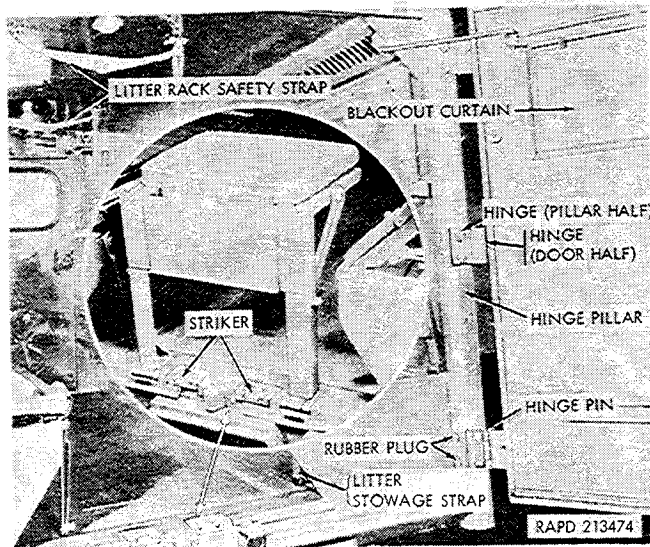
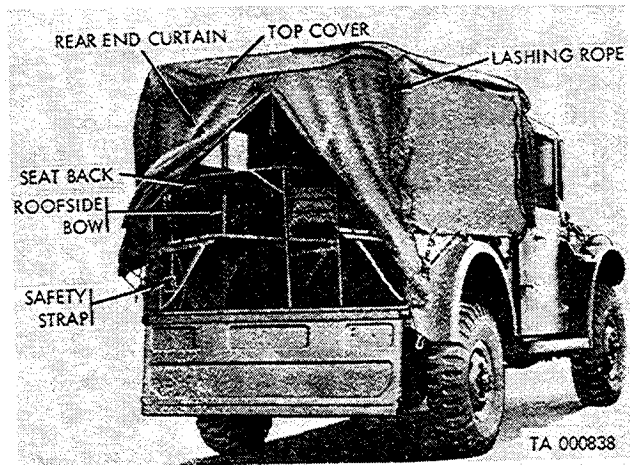

Figure 2-190. Patient compartment rear door adjustments.
Figure 2-195. Top cover and curtains (cargo truck M37).
c. Adjust Vertical Position of Door (Fig. 2-190). Both doors are adjusted in the same manner.
- (1) Open the door and remove the two rubber plugs at each pillar hinge.
- (2) Loosen the four lockwasher screws that secure each hinge to the hinge pillar.
- (3) Raise or lower the door, as required, to provide equal and uniform space at top and bottom.
(4) Tighten the four lockwasher screws at each pillar hinge.
(5) Install the two rubber plugs for each pillar hinge.
d. Adjust Horizontal Position of Doors (Fig. 2-190). Both doors are adjusted in the same manner.
(1) Loosen the four lockwasher screws that secure each door hinge to the door.
(2) Move the door to left or right, as required, to provide uniform contact at the weatherseals and equal and uniform space at the outer edges of both doors. If the horizontal adjustment required is excessive, adjust both doors.
(3) Tighten the four lockwasher screws for each door hinge.
e. Adjust Rear Door Strikers (Fig. 2-190). If the rear doors close hard, or if the contact at the weatherseals is unsatisfactory, adjust the rear door strikers located at the top and bottom of each door opening. All strikers are adjusted in the same manner.
(1) Loosen the two screws that secure the striker to the striker plate.
(2) Move the striker forward or back on the serrated striker plate, as required, until proper closing of the door is obtained. Tighten the screws.
a. Removal (fig. 2-195).
(1) Detach the safety strap (fig. 2-195) from the two eyebolts in the seat back lower boards, and remove the strap.
(2) Remove the nut and lockwasher from each eyebolt, and remove the two bolts and flat washers.
(3) Place a flat washer on each eyebolt. Install the eyebolt through the upper hole at the rear of the seat back lower board. Install a lockwasher and nut on each eyebolt. Tighten the nuts.
(4) Attach the safety strap snaps to the eyebolts.
b. Replace Litter Stowage and Holddown Straps (fig. 2-190) (Ambulance Truck M43).
(1) Remove the two nuts, lockwashers, and screws that secure the bracket for each lower stowage strap to the side compartment, and remove the strap and bracket. Remove the bracket from the strap. The buckle strap is removed in the same manner.
(2) Engage the strap in the strap bracket, position the bracket on the side compartment, and install the two flathead screws, lockwashers, and nuts for each bracket.
d. Replace Litter Rack Safety Straps (fig. 2-190) (Ambulance Truck M43). The four-litter rack safety straps are all replaced in the same manner. Detach the strap from the litter rack, and remove the strap from the bracket in the roof panel.
e. Replace Blackout Curtains (fig. 2-190) (Ambulance Truck M43). The blackout curtains on the rear door and on the partition door are all replaced in the same manner.
(1) Detach the curtain from the two fasteners at the lower edge. Remove the three screws and plain washers that secure the curtain to the door panel, and remove the curtain.
(2) Position the new curtain on the door with the unfinished side toward the glass. Install the three plain washers and tapping screws. Tighten the screws. Secure the lower edge of the curtain with the two fasteners or roll it and secure it with the two rollup straps.